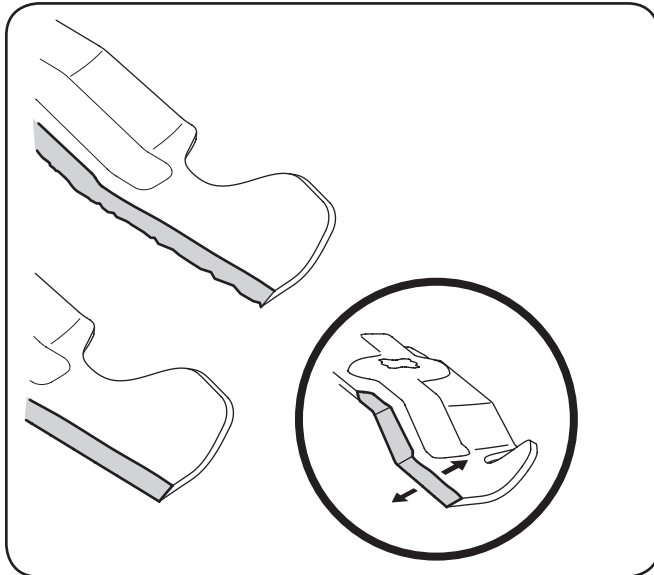

Figure 7-10
4. To properly sharpen the cutting blades, remove equal amounts of metal from both ends of the blades along the cutting edges, parallel to the trailing edge, at a 25° - 30° angle. Always grind each cutting blade edge equally to maintain proper blade balance. See Fig. 7-10.